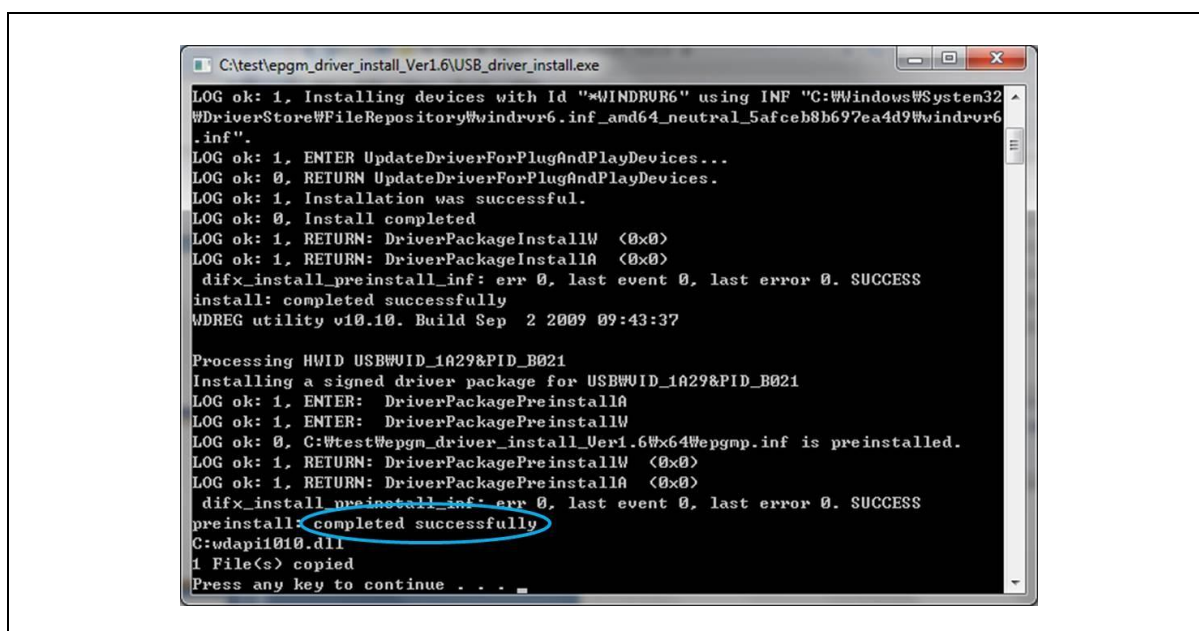

Figure 14. Driver Installation
7. After executing the 'exe' file, the window shown in Figure 14 appears if the installation is successful. The installation takes one to three minutes depending on the PC environment.